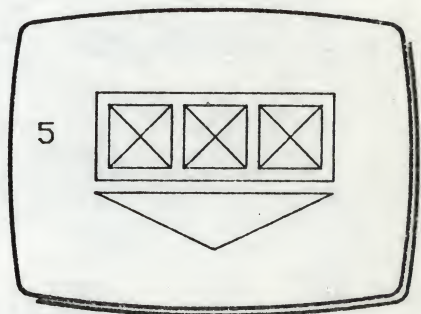

Fig 5
- 5 Using COPY, check that the composite drawing now uses the modified component (Fig 5).